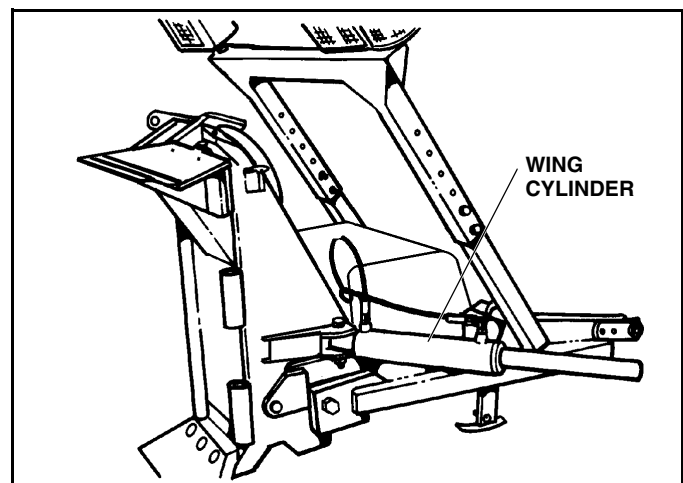

Figure 1-4
3. Swing the wing cylinders out to the side so they will be out of the way for installing the wings. (See Figure 1-4).